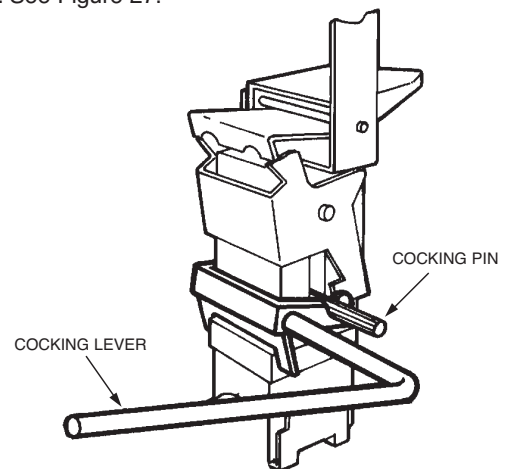

FIGURE 27
14. Insert cocking lever (Part No. 14995) on left side of the regulated release mechanism, with the movable flange resting securely against the corner of the cartridge receiver and spring housing, and with the notched lever portion engaging the cocking pin on **both** sides of the regulated release mechanism. See Figure 27.